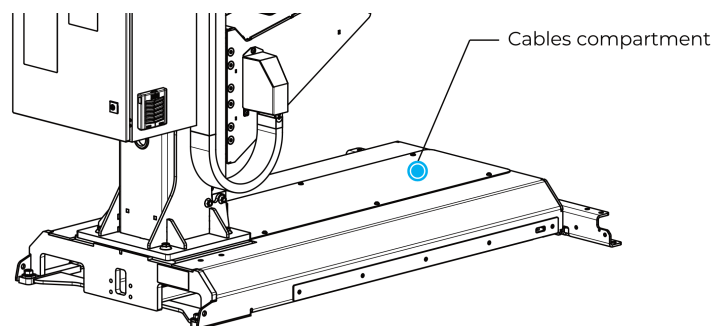
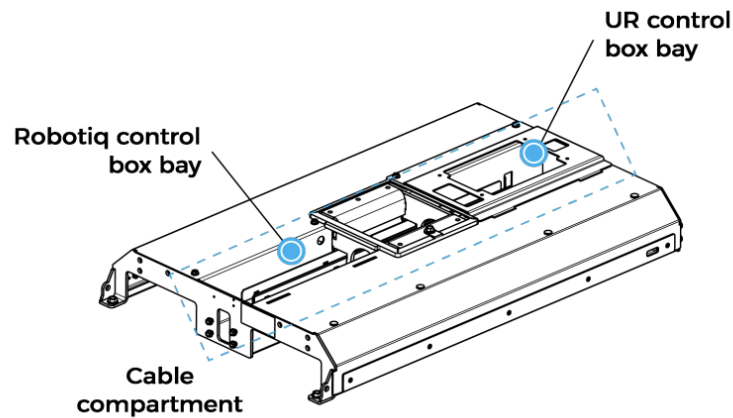

Fig. 4-20: AX - Cables Compartment
Fig. 4-21: PE - UR Control Box Bay
- c. Access the Ø12 mm main infeed line. For AX models, open the cable compartment (Fig. 4-20) on the Palletizer base. For PE models, open the UR Control Box Bay (Fig. 4-21).